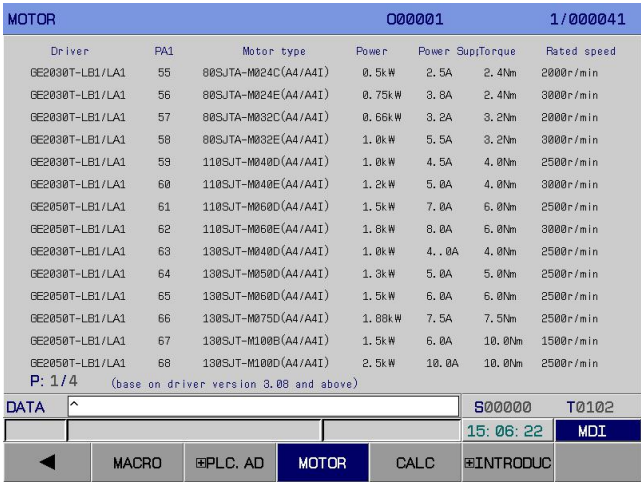

Fig.3-9-12
8. Motor table interface: On <Help> interface, press [Motor Table] to enter the motor table interface, as shown in Fig.3-9-12: